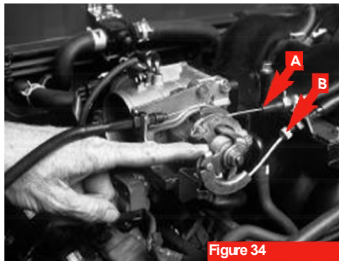

Figure 34
10. Install the transmission kick down cable (see arrow A, figure 34) and throttle cable (see arrow B, figure 34) in the bracket.